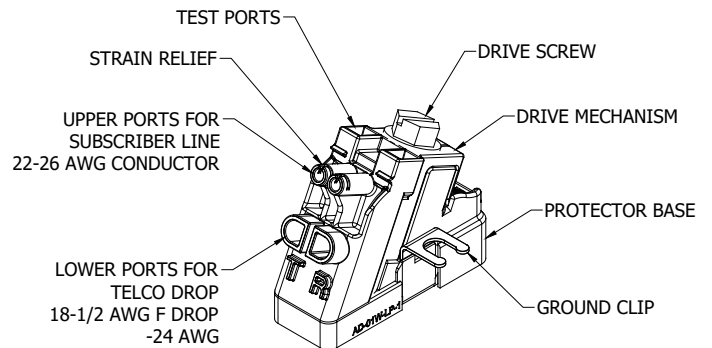
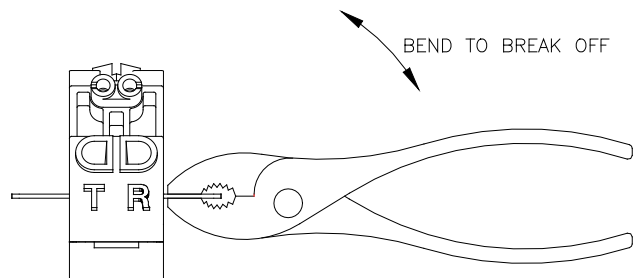

Figure 1
Figure 2
1. The Angle Driver is delivered with a universal grounding and mounting tab (See Figure 1). If installing a new module, break away the unwanted ground tab from the module using a pair of pliers and discard (See Figure 2). Install module on desired ground post and secure with washer and nut.